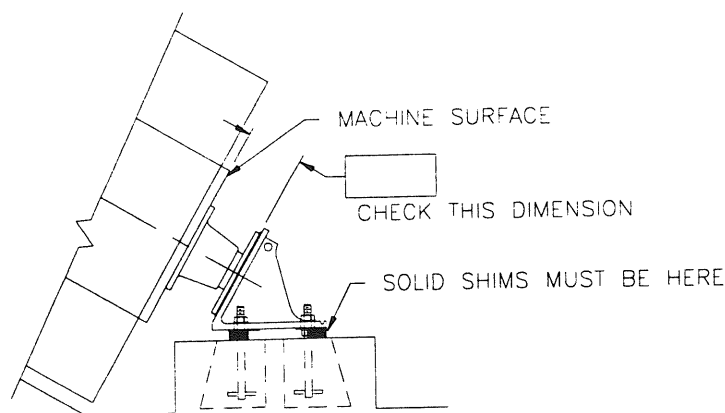

Figure D8
- h. With the upper bearing grouted in its position, move the lower bearing journal to the dimension shown on the "07" drawing, Figure D8. Remove the braces at the bottom of the screw but not the shims.